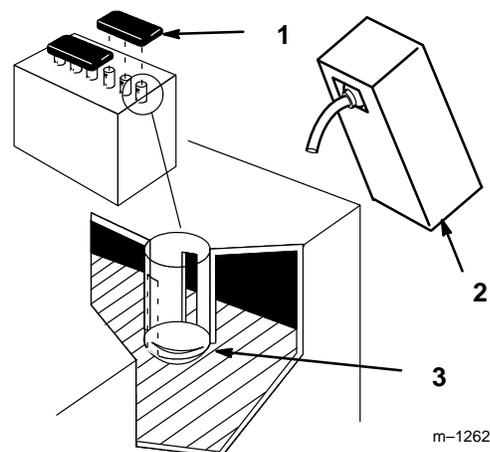

Figure 5
2. Remove filler caps from the battery. Slowly pour electrolyte into each cell until the electrolyte level is up to the lower part of the tube (Fig. 5).
5. Slowly pour electrolyte into each cell until the level is once again up to the “UPPER” line on the battery case (Fig. 5) and install covers.